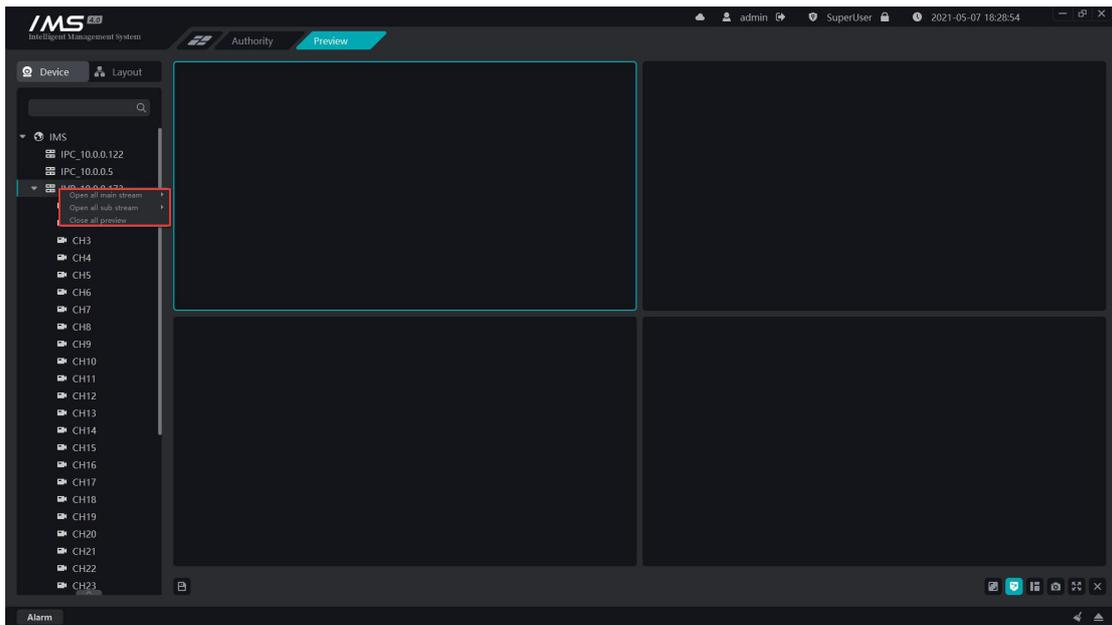

Figure 5-2
- 3 Select [turn on all main streams] or [turn on all substreams], as shown in figure 5-2